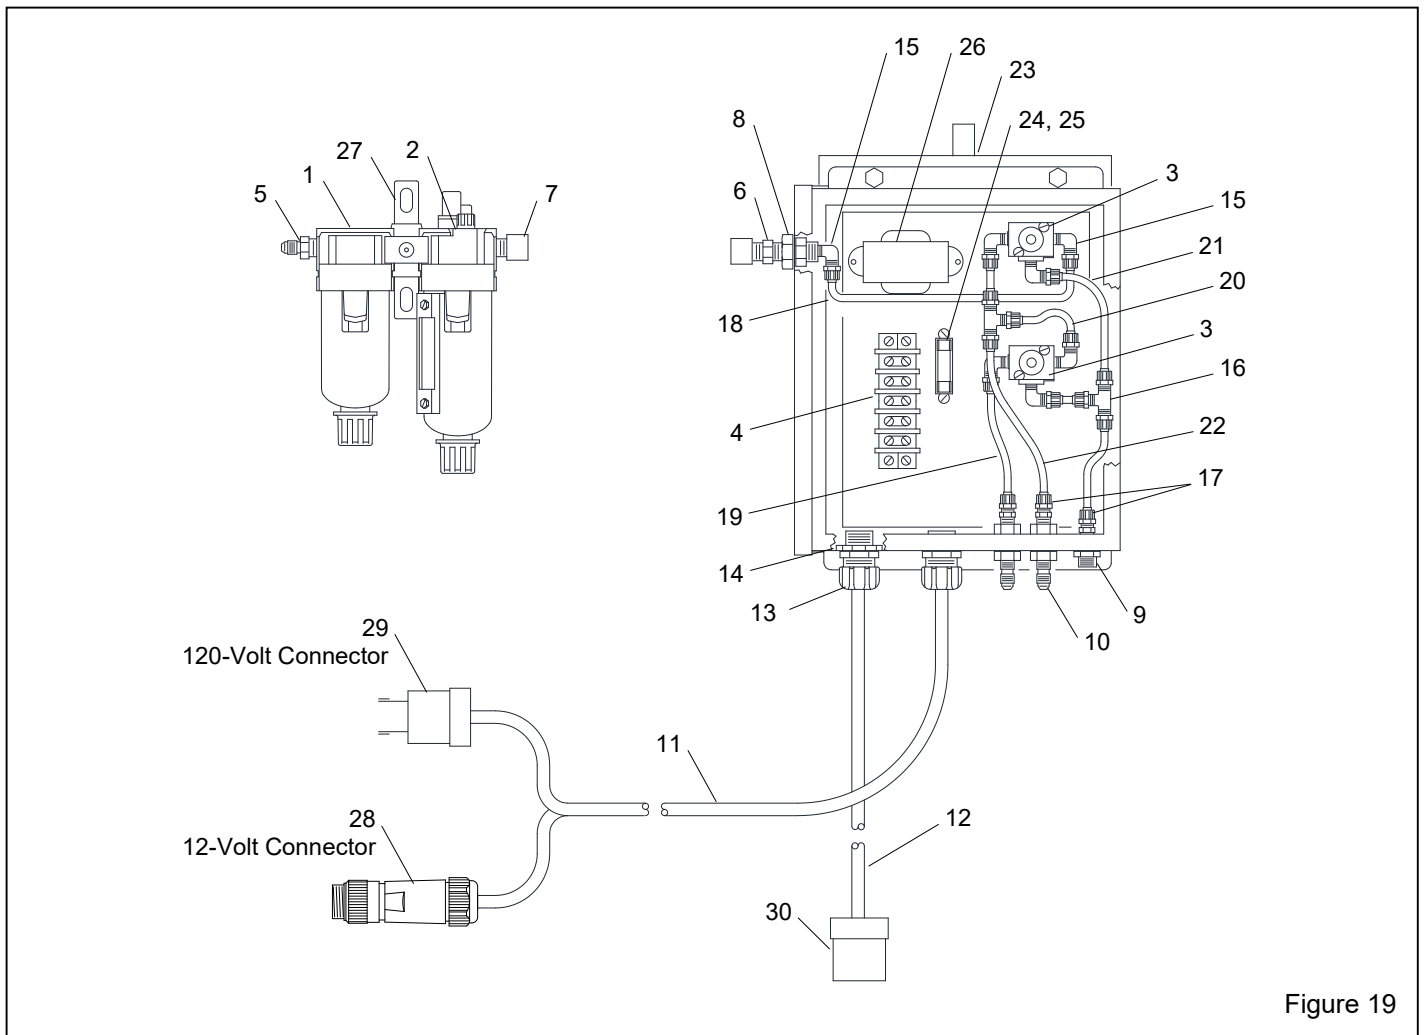

Figure 19
8.4 Control Panels – Figure 19